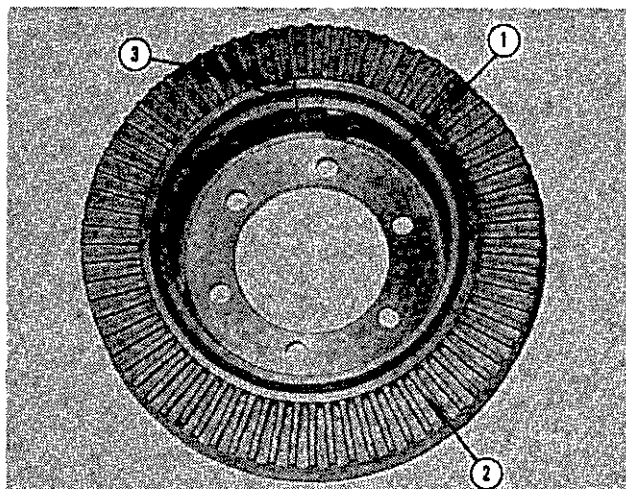

Fig. 1-54 (N10146). Alignment Marks On The Vibration Damper.
- Check the index lines (3, Fig. 1-54) on the damper hub (1) and the inertia member (2). If the lines are more than 1/16 inch [1.59 mm] out of alignment, discard the damper.